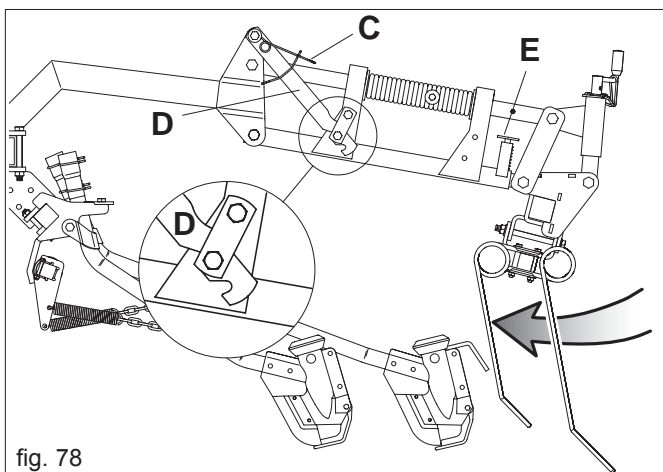

fig. 78
For road transport, the teeth of the seed covering harrow must be turned downwards (Fig. 78).
- 1) Position the spring (C) as shown in Figure 78.
- 2) Lift the seed-covering harrow so as to hook the lever (D Fig. 78).
- 3) Lift the pin (E Fig. 45) and slide the harrow to the next automatic hook of the pin (E Fig. 78).